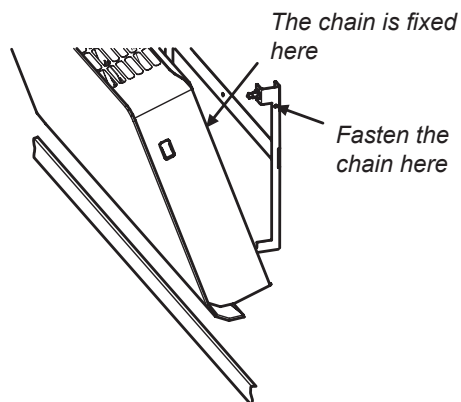

Fig. 4
3. Angle the radiator 90° outwards and slot the lower part of the wall fixing into the circular holes furthest down on the back of the radiator. Raise radiator and fasten the security chains. The top is then clipped in place with the snap pins on the wall fixing. Now the radiator will hang on the wall fixing by the chains even if the pins are loosened for example for cleaning. See Fig. 4.